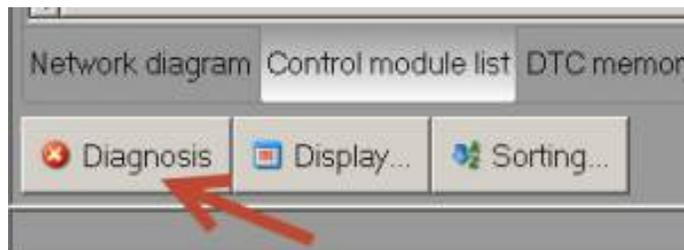

Figure 13. End diagnosis.
13. After all work is complete, end Diagnosis (Figure 13).